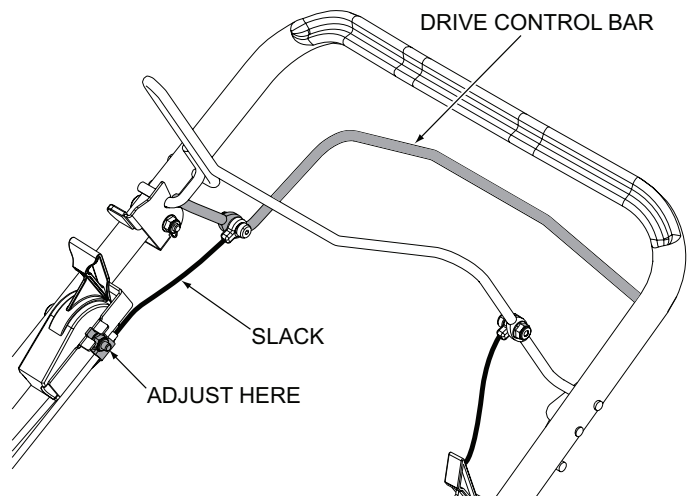

Figure 6-5. Drive Control Bar Adjustment
3. With the drive control bar released, loosen the clamp securing the speed select cable to the drive control bar. See Figure 6-5.
4. Adjust the cable until there is a small amount of slack in the cable between the drive control bar and cable sheathing. See Figure 6-5.